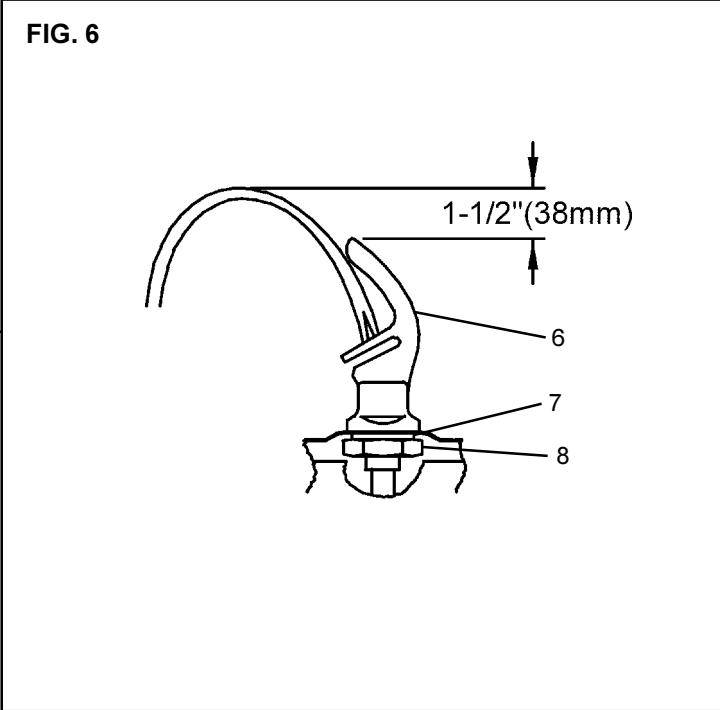

FIG. 6
9. **Check stream height from bubbler.** Stream height is factory set at 45-50 PSI. If supply pressure varies greatly from this, remove items 3 and 4 and adjust screw on regulator (Item 9). Clockwise adjustment will raise stream height and counter-clockwise adjustment will lower stream height. For best adjustment stream height should be approximately 1-1/2" (38mm) above the bubbler guard. (See Fig. 6)